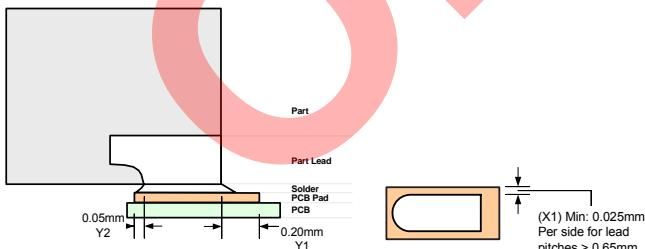

Figure 5 – PC Board Land Pattern Geometry for MLP Terminals
As a general rule, the PCB lead finger pad (Y) should be designed 0.2-0.5mm longer than the package terminal length for good filleting. The pad length should extended 0.05mm towards the centerline of the package. The pad width (X) should be a minimum 0.05mm wider than the package terminal width (0.025mm per side), refer to figure 5. However, the pad width is reduced to the width of the component terminal for lead pitches below 0.65mm. This is done to minimize the risk of solder bridging.